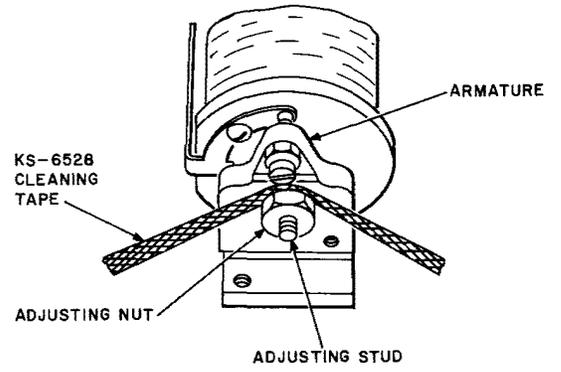

Fig. 58—Method of Cleaning Adjusting Stud and Adjusting Nut on 89-, 101-, 105-, 108-, and 172-Type Relays
7.20 To clean the adjusting stud and adjusting nut, pass the tape back and forth between the armature and the nut above and below the adjusting stud as shown in Fig. 58, holding the armature in the unoperated position while drawing the tape through.